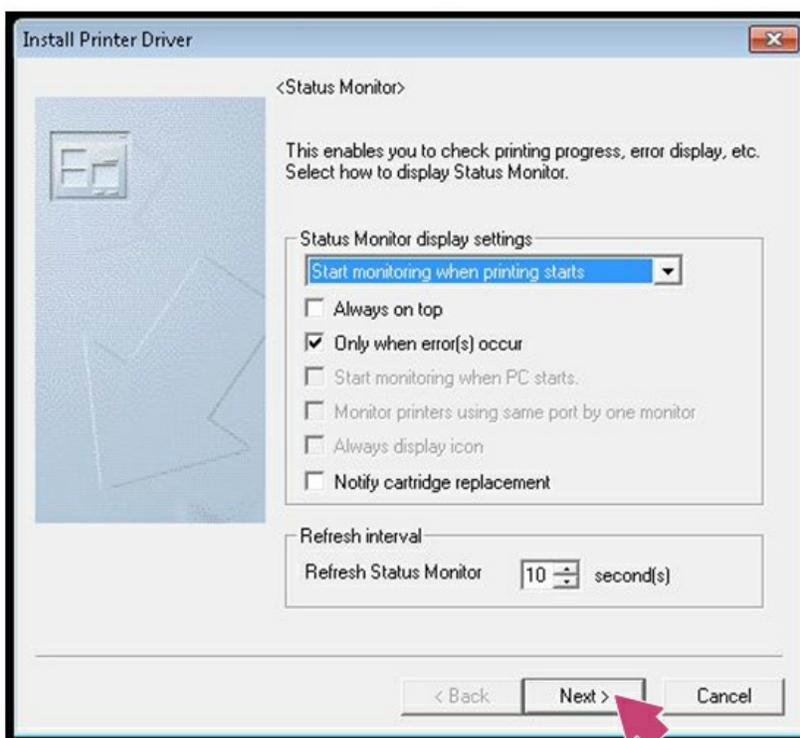

FIGURE 15
15. In the following screen you are asked to customize the Status Monitor. Adjust the settings according to your preferences and click **Next** to continue. See Figure 15.